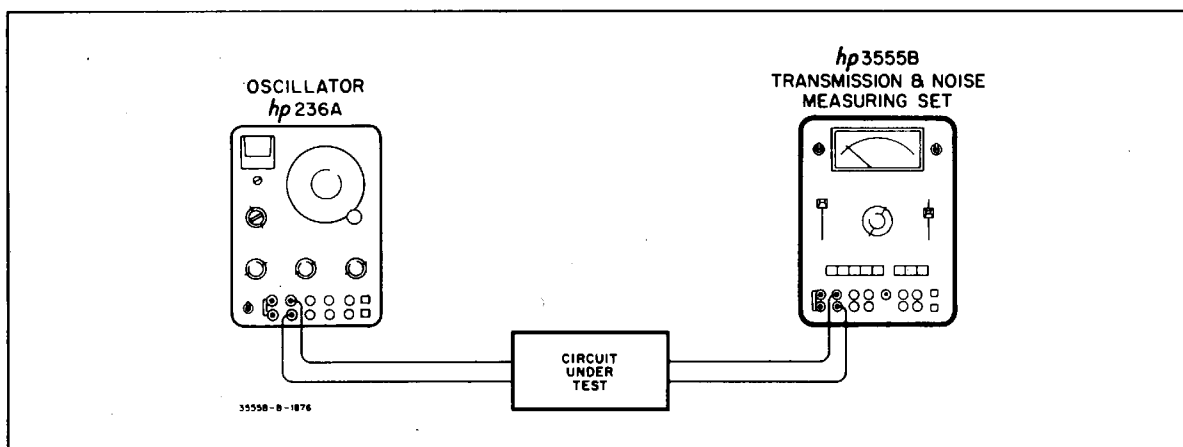

Figure 3-6. Typical Test Setup for Measuring Insertion Loss
3-49. Transmission loss is defined as the ratio of power from a transmission line by a receiving terminal to the power available from the sending equipment and is dependent on three factors; power dissipated by the dc resistance of the line, power losses because of impedance mismatch, power transferred to other circuits by inductive or capacitive coupling. (See Figure 3-6).
3-51. Figure 3-6 shows a typical transmission loss measurement setup. The oscillator is adjusted for a reference level and the signal is measured at the other end of the line with a level meter. Loss measurements are usually made at various frequencies to determine the response of the line.
2.	Establish a connection like the ones shown in Figure 3-6.